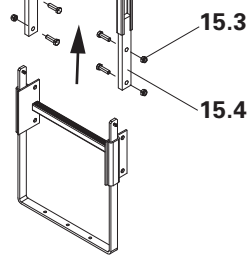

Fig. B1.50
2. Connect ladders with bolts, SW 19 (15.3). (Fig. B1.50)
3. Mount Ladder Base (30) (15.4) using bolts, SW 19 (15.3). (Fig. B1.50)